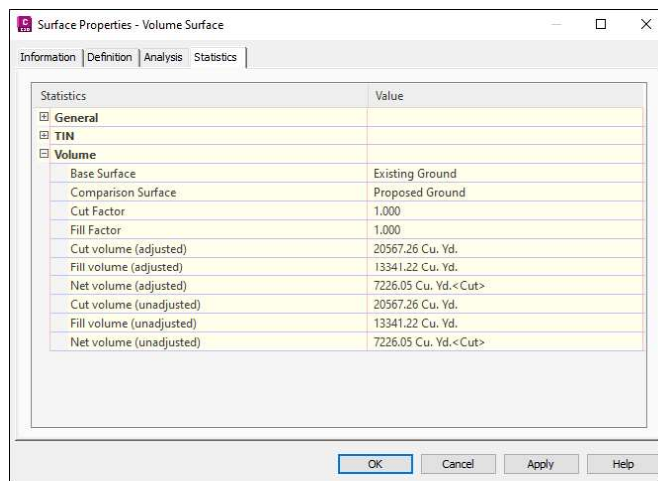

Figure 4-21 The cut, fill and net volumes displayed in the **Volume** category
8. Expand the **Volume** category in this tab; the cut, fill, and net volumes are displayed, as shown in Figure 4-21.